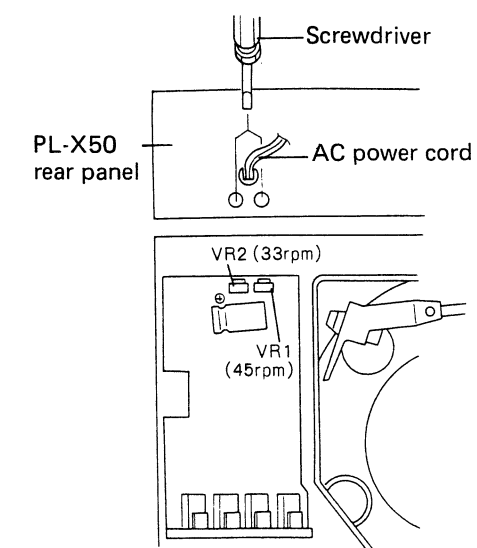

Fig. 12-5 Turntable motor speed adjustment
2. Adjust the speed adjustment VR on the rear panel of the unit. When adjusting this VR, if contact is made between the bonnet and the VR, rotational speed will be affected. When using a metal screwdriver to make this adjustment, always wrap tape around the shank of the screwdriver and try not to make contact with the bonnet (Fig.12-5).